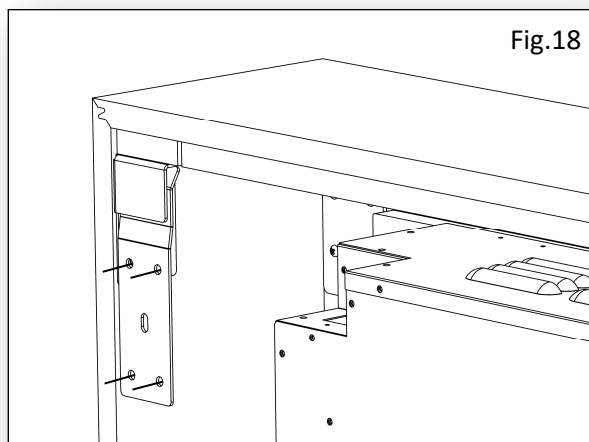

Fig.18
21. Lift the Suite onto the Wall Brackets (B) and confirm it is securely held in place. See Fig.18.